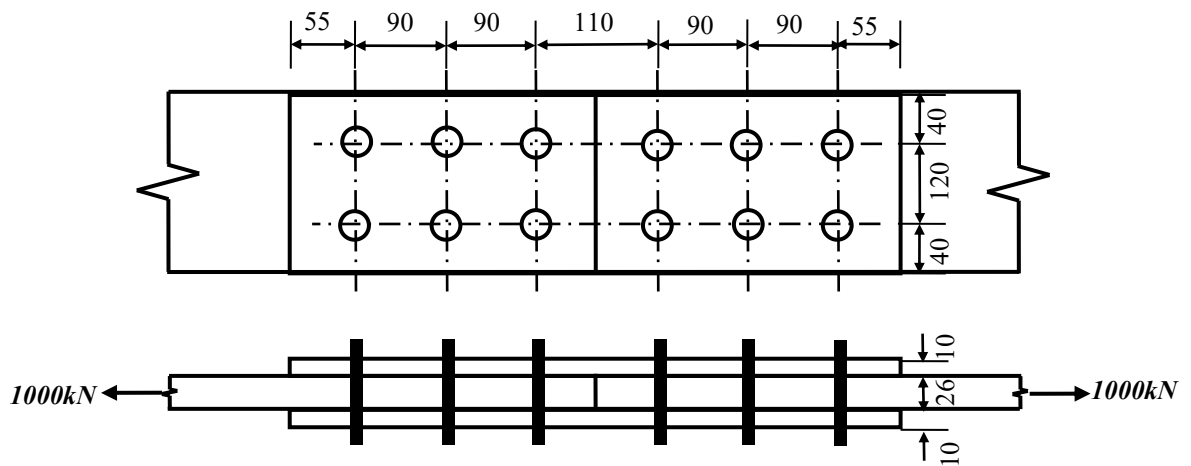

Figure Q2 (dimension in mm)
Q.2 A tension splice connection is subjected to an ultimate tensile force of 1000 kN as shown in **Figure Q2**. The main plate is 26 mm thick and the cover plates are 10 mm thick. All steel plates are of **Grade S355** and all bolts are of **Grade 8.8** M30 with 33 mm holes.